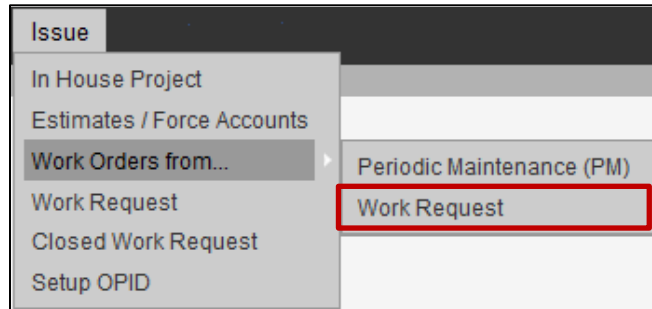

Figure 5-2. Issue ~ Work Orders from... Menu Options – Work Request
1. Navigate to Road Maintenance > Issue > Work Orders from ... > Work Request (Figure 5-2).